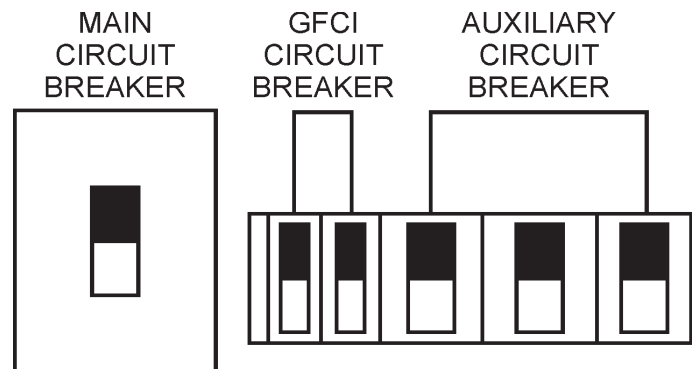

Figure 52. Main, Aux. and GFCI Circuit Breakers (ON)
15. Place the **main**, **GFCI**, and **aux.** circuit breakers in the **ON** position (Figure 52).